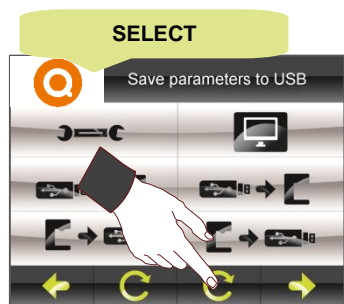

Figure 1.
1. Select the operation to be performed (Fig. 1), in this case, load the data stored on a USB memory stick, which has been obtained from another machine for copying onto our machine.